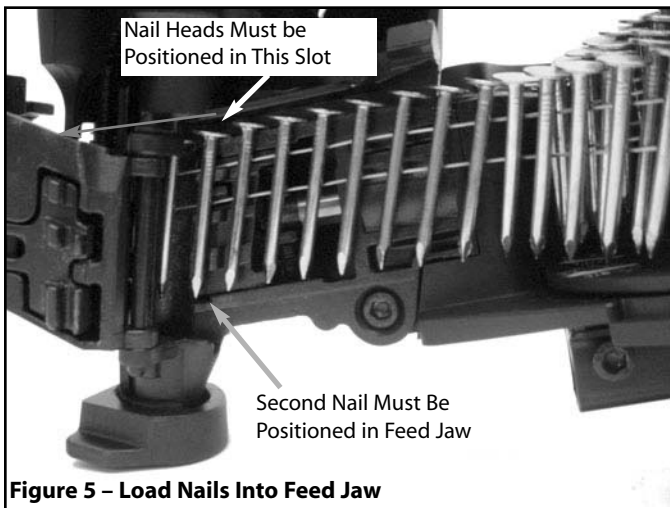
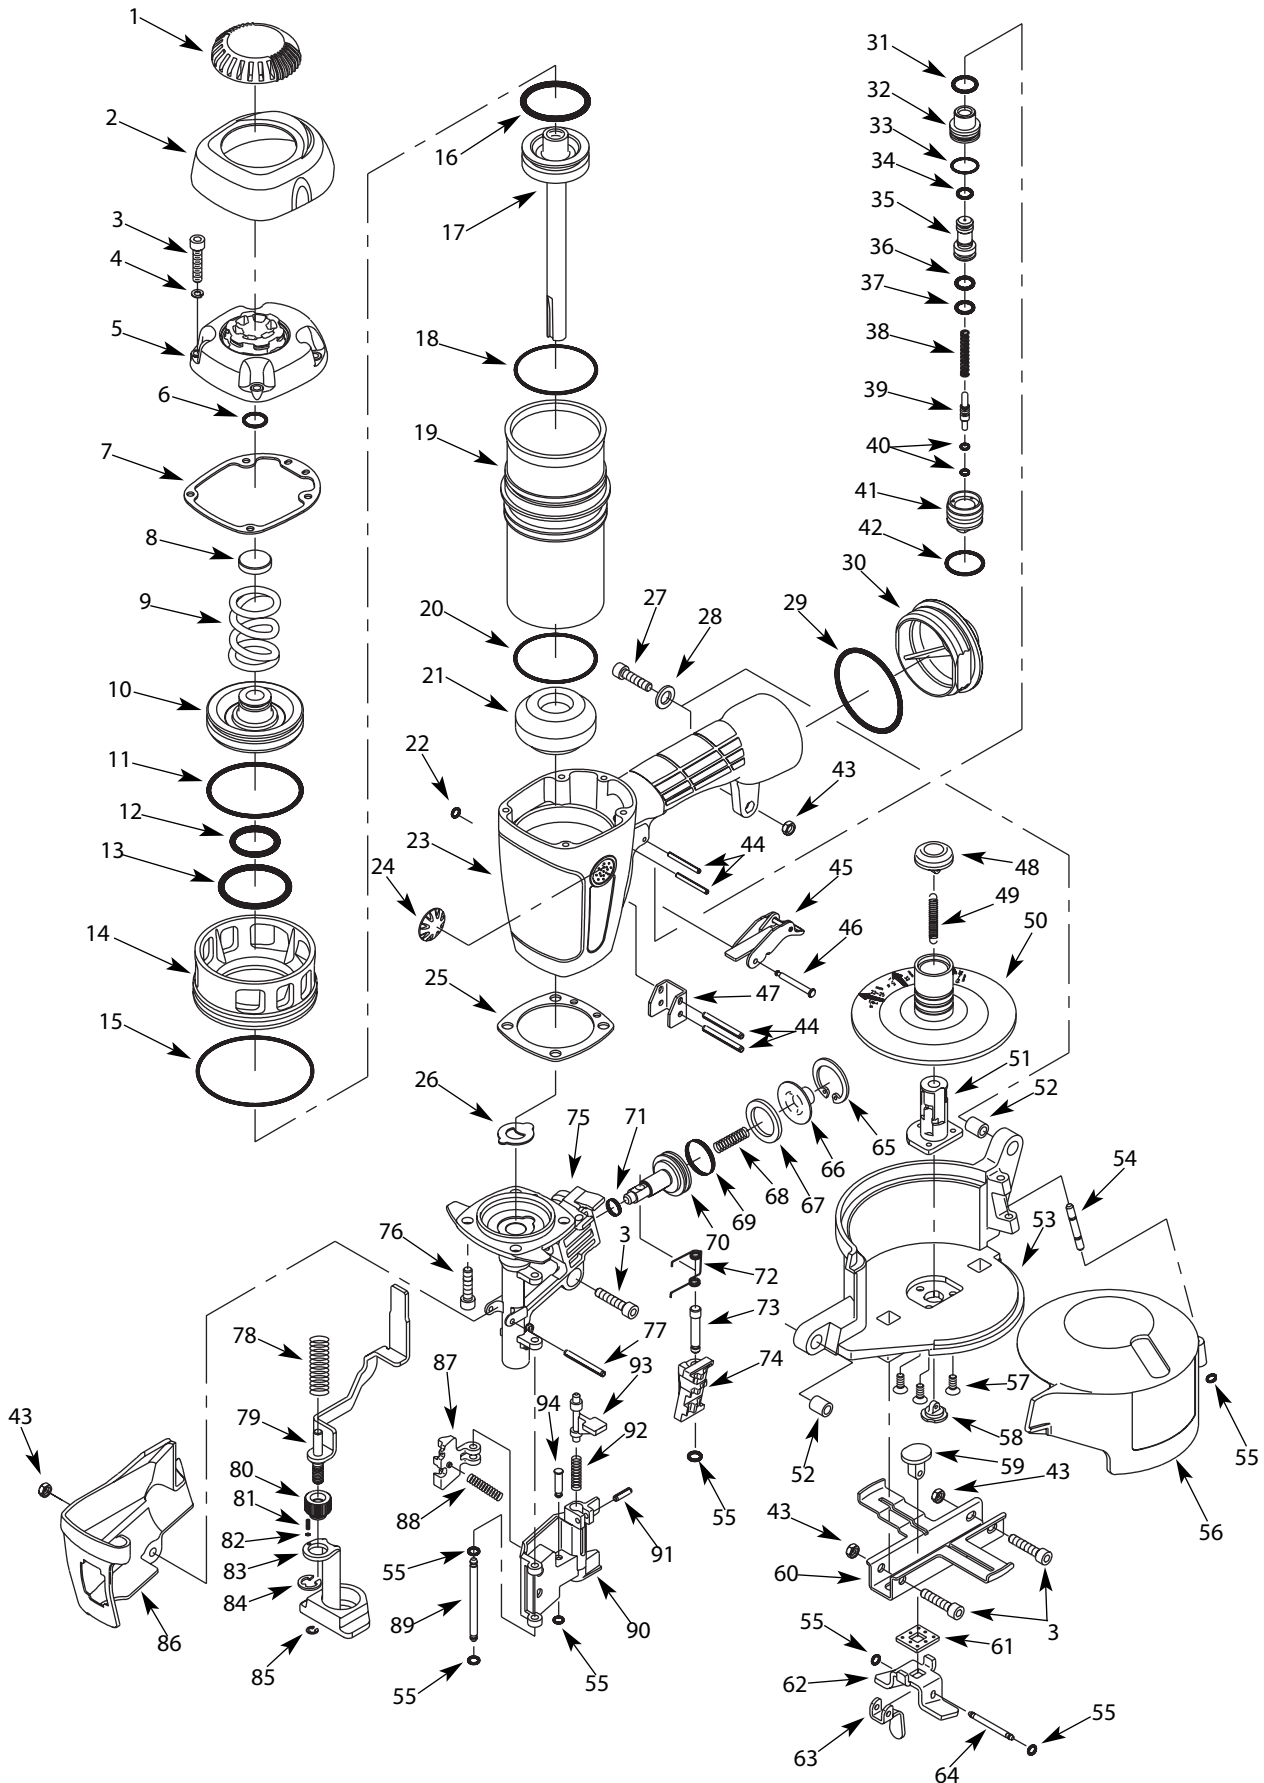

Figure 5 – Load Nails Into Feed Jaw
Figure 10 - Replacement Parts Illustration for Nailer
- Unwrap coil so that second nail can be placed between sides of feed jaw. The ram (Fig. 10, No. 17) may need to be pushed up to fit in the first nail. Make sure that the nail heads are positioned in the slot at the top of the nail feed rack (see Figure 5).
Refer to Figure 10 (page 8).
Lubricate tool daily with quality air tool oil. If no air line lubricator is used, place five or six drops of oil into air inlet cap (Figure 10, Key No. 30) of tool everyday.
The tip of the ram (Fig. 10, No. 17) can become dented or rounded over time.